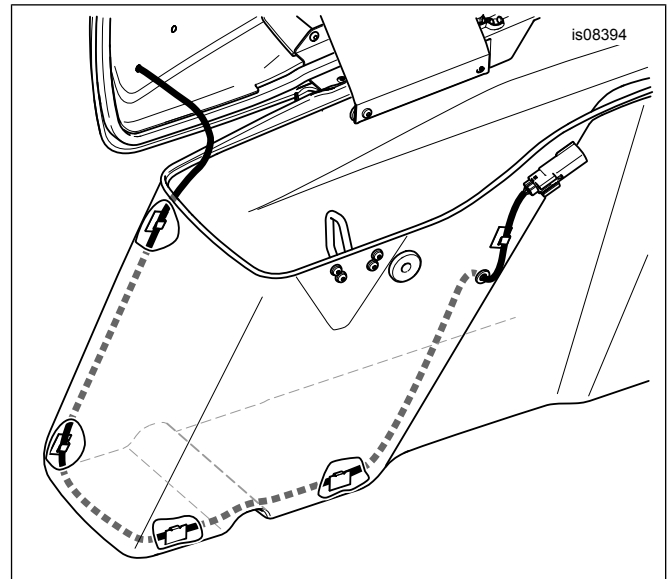

**Figure 2. Drill Wiring Hole in Inboard Saddlebag Wall (Left Bag Shown)**
1. See Figure 2. Lay strips of masking tape on the outside of the inboard saddlebag wall, in the approximate area of the required wiring hole. Carefully measure and mark the hole location as shown.
7. Get a four-way Molex pin housing (9) from the kit. See the service manual appendix. Insert the spoiler wires into the pin housing:
8. Get an adhesive-backed wire clip (8) from the kit. Use the clip to fasten the spoiler wiring to the outside of the saddlebag as shown. See Figure 2.
11. Get the wire harness (10) from the kit. Unplug the six-way vehicle harness connector [C7] under the seat:
15. Secure wiring to the frame tubes with cable straps (11) as needed.